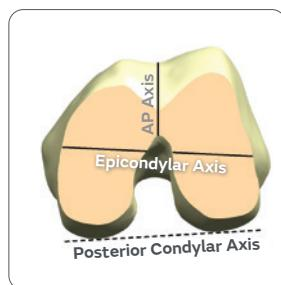

Figure 22
1. Optional: Mark the A/P and epicondylar axis on the femur (**Figure 22**).